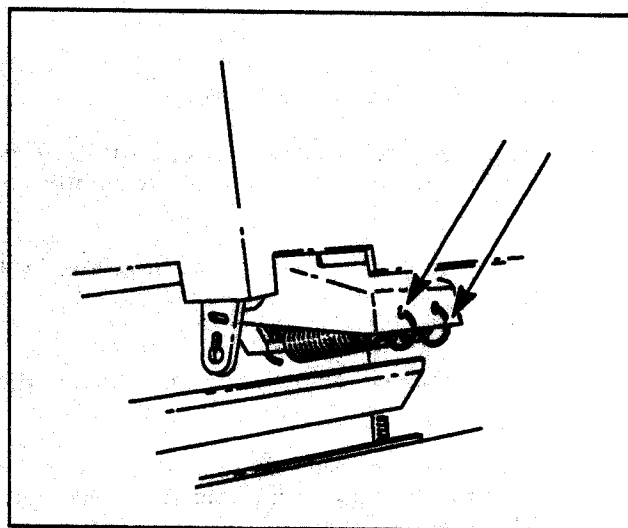

Figure 6-26. Movable Pinch Wheel Arm Removal
- f. Remove the movable pinch wheel arm tension springs. See Figure 6-26.